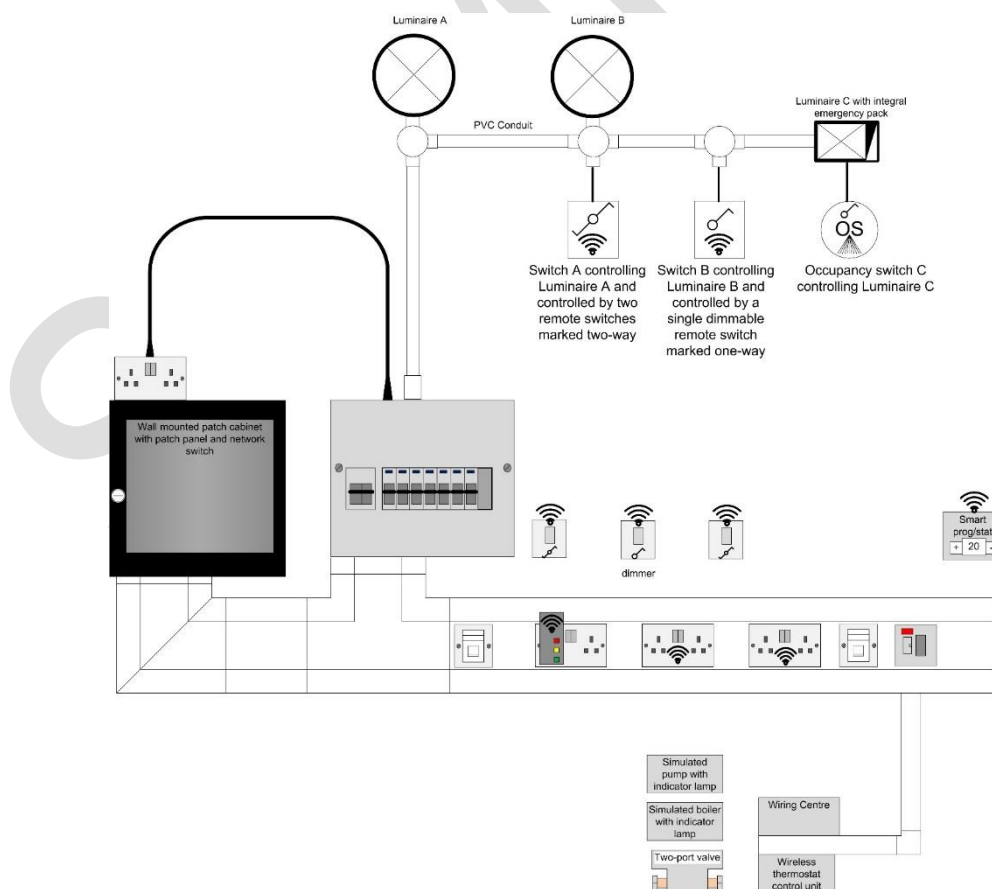

Figure 2
The client requests the following to be undertaken, and is also detailed in Figure 2,
- Carry out the installation work as detailed in the client's schedule and figure 2